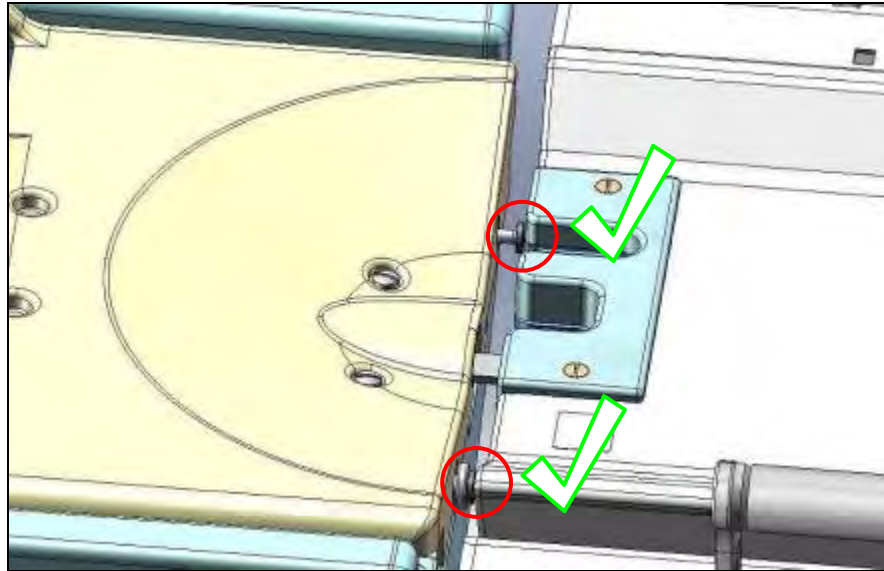

Figure 55
8. Adjust the Optical Interlock plunger opposite the LPCA interlock ensuring that it depresses the round-ended plunger on the scanner. This is an optical switch which if not sufficiently pressed, will prevent the patient support from advancing to scan. The switch should be depressed to approximately 1/4" to 3/8" (6.35mm to 9.52mm) in protrusion (Figure 55).